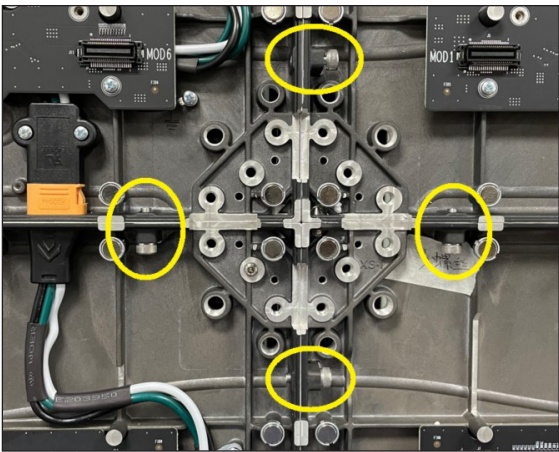

Figure 23: Stitch Bolt Locations
- 7. Install the panel side stitch bolts across the bottom row of panels while ensuring the machined tops, bottoms, and faces are all flush to each other. Use a 4 mm key to tighten the stitch bolts. Refer to **Figure 23**.